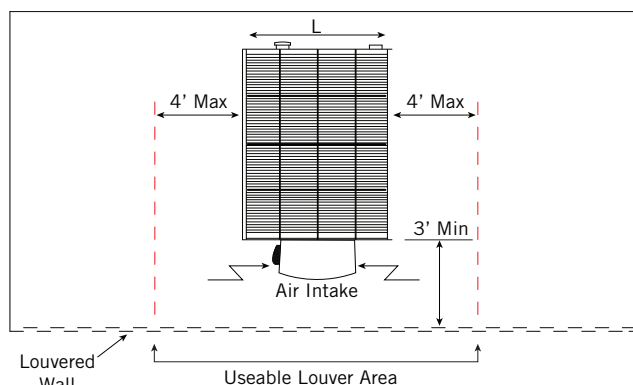

Figure 12. Plan View of Single Air Intake Unit in Enclosure with Louvered Walls and Closed Top Installation
- Install the cooling tower with the limitations shown in Figure 12 for uniform air distribution.